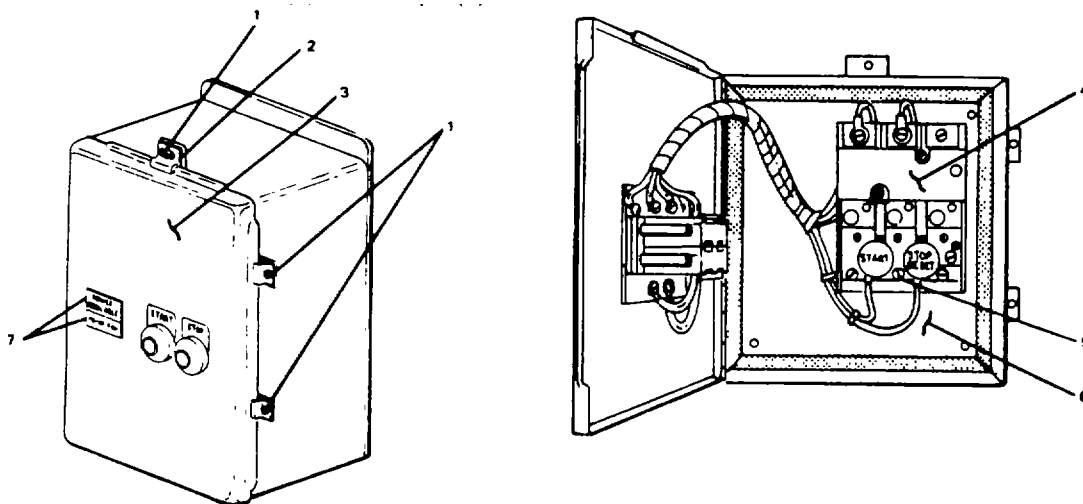

Figure 2-81. Motor Controller (9115H167).
- a. Remove lens covers and lamps (7, Figure 2-81) from indicators.
- b. Loosen screws (1) until clamp (2) clears lip of door (3). Rotate clamp (2) clear of door lip. Open door (3).
- c. Tag and disconnect electrical wiring to starter (4).
- d. Remove three screws (5) holding starter (4) to controller back plate (6). Remove starter.